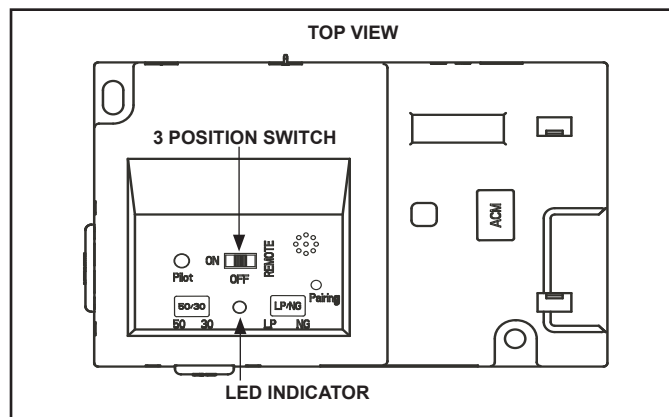

Figure 3.6 IFT-ECM
1. The Electronic Control Module (IFT-ECM) has a three-position ON/OFF/REMOTE selector switch that must be set for proper operation. See Figure 3.6. When changing switch positions, it is important to pause in each position for 1-2 seconds.